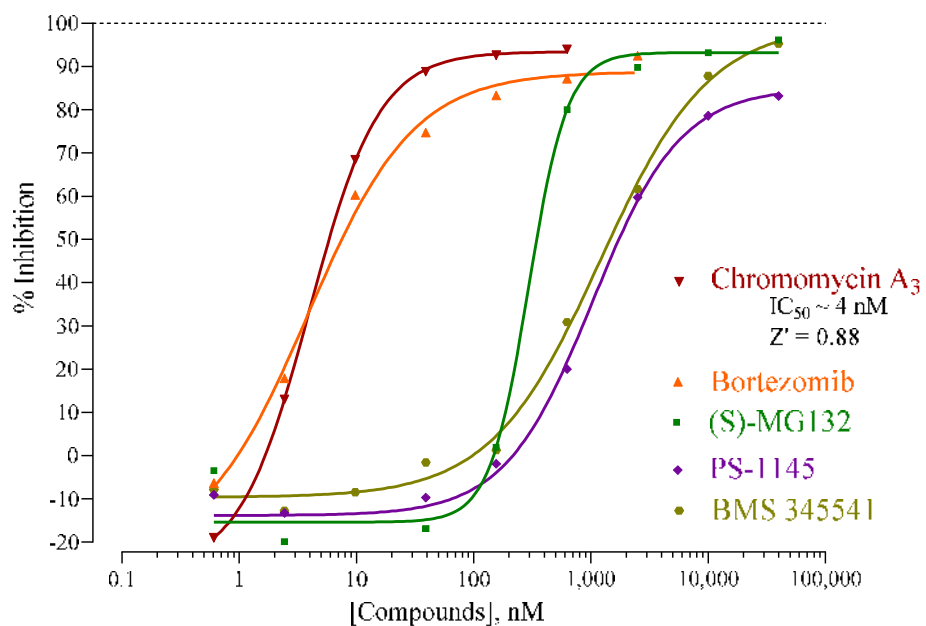

Figure 3. Dose-dependent inhibition of NF- κ B.
- *Optional:* NF- κ B inhibitor reference compound (refer to Figure 3)